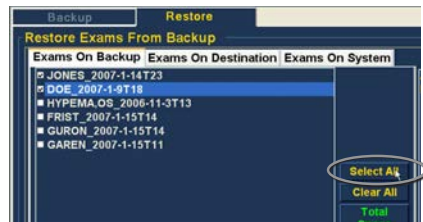
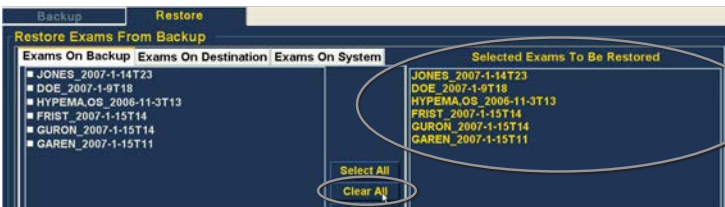

Figure 8.23 - Select All Exams to be Restored
Figure 8.24 - Selected Exams To Be Restored - Clear All
1. Click “Select All” as shown in Figure 8.23. All system exams will be displayed in the “Selected Exams To Be Restored” section of the screen as shown in Figure 8.24.
1. Click on “Clear All” as shown in Figure 8.24. The “Selected Exams To Be Restored” list will be emptied. You can then individually select the exams if wanted.